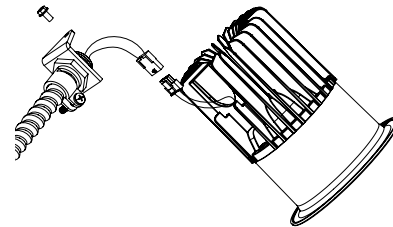

FIGURE 6
2. Fasten conduit adapter to trim housing using the screw provided (see Figure 6).
2. Disconnect conduit adapter by loosening screw. (See Figure 6)
4. Remove heatsink from lower housing by removing (3) screws and lifting off.